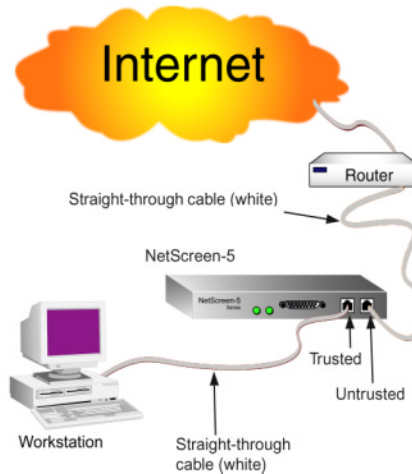

Figure 2-2 Typical Single-Workstation Configuration—Router Connected to the Untrusted Port, Workstation Connected to the Trusted Port
- Figure 2-2 “Typical Single-Workstation Configuration—Router Connected to the Untrusted Port, Workstation Connected to the Trusted Port” on page 2-3.